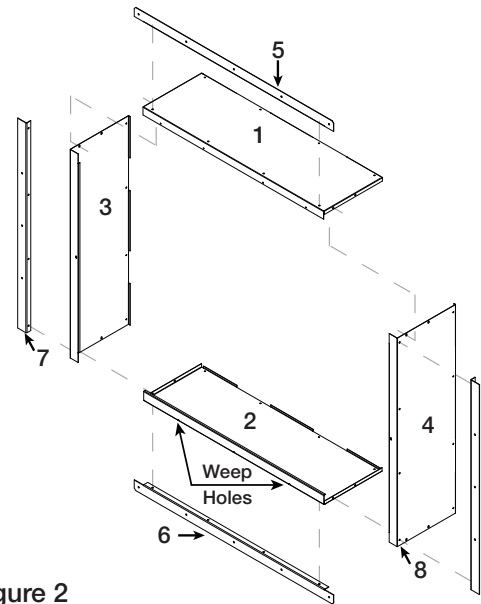

Figure 2
1. Refer to Figure 2 and Identify all components before assembly.
2. Using specified fasteners, attach bottom panel (2) to both side panels (3 & 4). Lap the side panels over the bottom panel for waterproofing. Finger tighten.
3. Fasten both side panels (3 & 4) to the top panel (1). Lap top panel over side panels for waterproofing and fasten with specified hardware. Wide formed edges must all be on the exterior side of the wall mount collar. Finger tighten the fasteners.